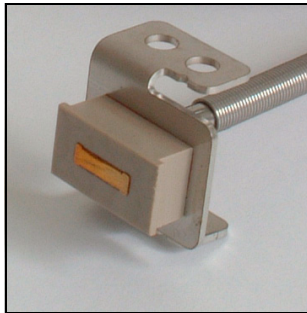
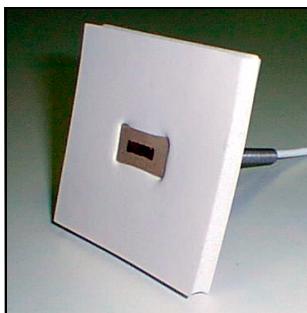

Fig. 7.1: Temperature probe
Fig. 7.2: Temperature probe with protection plate and isolation foam
- Fix the protection plate and the isolation foam to the temperature probe (see Fig. 7.1 and Fig. 7.2).